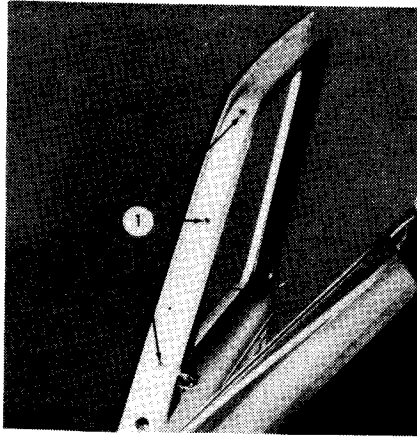

FIG. 19
9. Remove the three vent window frame retaining screws (1, Fig.19).